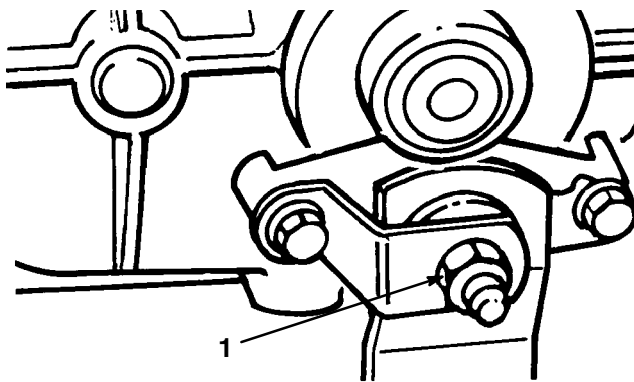

Figure 14
Adjust the brake pucks if the parking brake does not hold or braking power is not sufficient when the brake pedal is depressed. The brake is located on the left side of the transaxle (Fig. 14).
3. Tighten the locknut approximately 1/4 turn clockwise (Fig. 14).